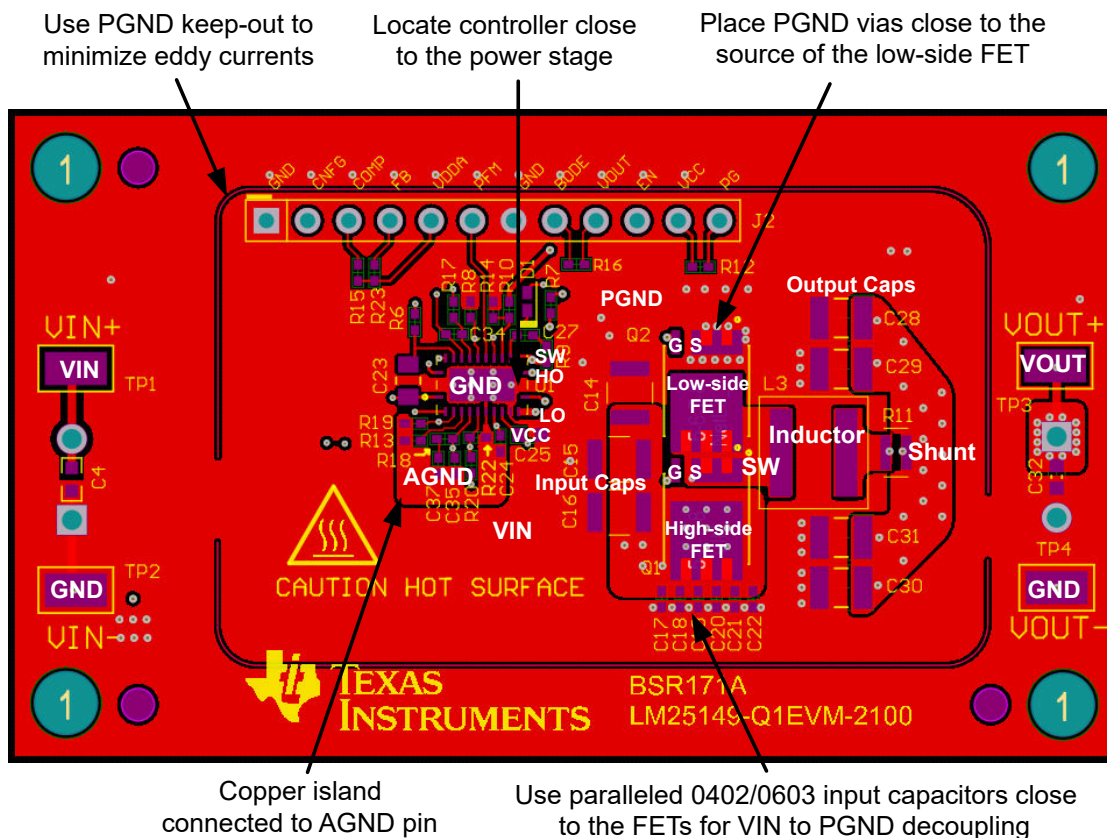

Figure 9-47. PCB Top Layer – High Density, Single-sided Design
Figure 9-47 shows a single-sided layout of a synchronous buck regulator with discrete power MOSFETs, Q1 and Q2, in SON 5-mm × 6-mm case size. The power stage is surrounded by a GND pad geometry to connect an EMI shield if needed. The design uses layer 2 of the PCB as a power-loop return path directly underneath the top layer to create a low-area switching power loop of approximately 2 mm². This loop area, and hence parasitic inductance, must be as small as possible to minimize EMI as well as switch-node voltage overshoot and ringing.
- Make the ground connections to the LM5148 controller as shown in Figure 9-47. Create a power ground directly connected to all high-power components and an analog ground plane for sensitive analog components. The analog ground plane for AGND and power ground plane for PGND must be connected at a single point directly under the IC – at the die attach pad (DAP).